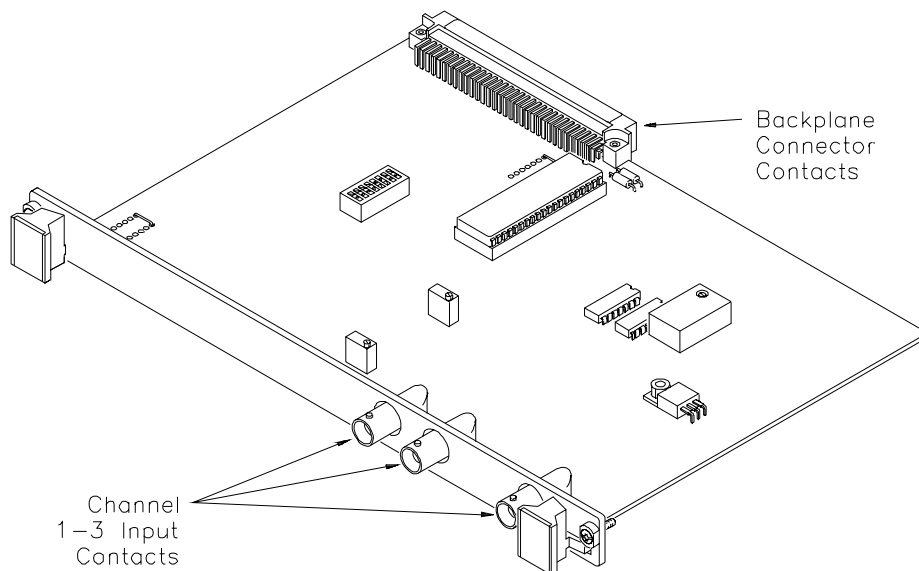

Figure 3-1. Cleaning the Agilent E1333A Counter
3. Clean all contacts indicated in Figure 3-1.